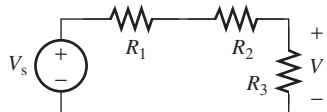

FIGURE P3.17 Circuit for Problem 3.17.
- 3.17** (A) Find V_s given V in Figure P3.17.